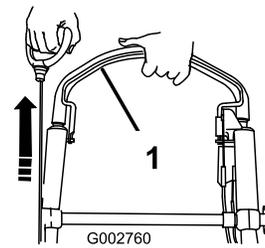
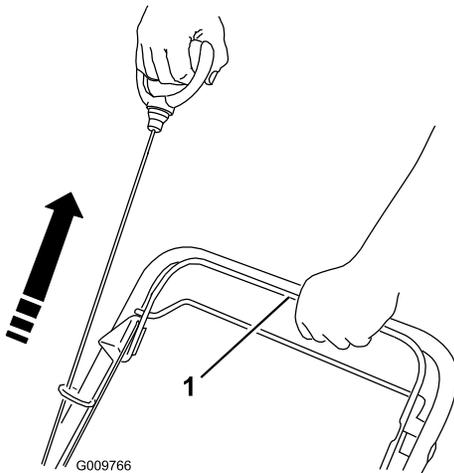

Figure 23
Figure 22
2. Hold the blade control bar against the handle and pull the recoil starter (Figure 22 or Figure 23).